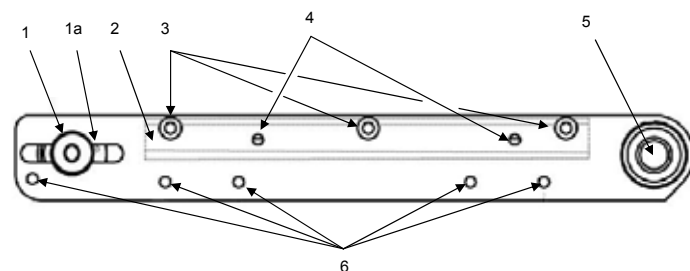
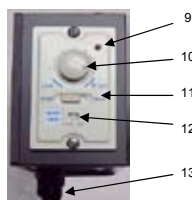

Fig. 2a — Conveyor Siderail (blank side)
Fig. 2c — Variable-Speed Control Unit
6. Consideration should be given to installations that restrict access to removal of the siderail opposite the gearmotor (blank side, per Fig. 2a on Pg. 6) for cleaning or if belt replacement is required.
2. Slide the Rotation switch to the desired position (i.e., clockwise/CW or counter-clockwise/CCW). Refer also to Fig. 2c, #12 on pg. 6.
(See figs. 2a & 2b on Pg. 6)
3. Locate the belt tension lock screws (see figs. 2a and 2b, #1) and loosen – do not remove – using a 3/16" hex wrench.
5. Using a 1/8" hex key, remove T-slot (if equipped), then remove the Maintenance Access Screws (Fig. 2a, #3).
Figs. 2a and 2b (to the left) provide location of conveyor drive shaft, maintenance access screws, belt adjustment points and mounting holes. The following lists their description and function. Fig. 2c (bottom left) shows the controls located on the factory-supplied controller for those units equipped with the Variable-Speed option.